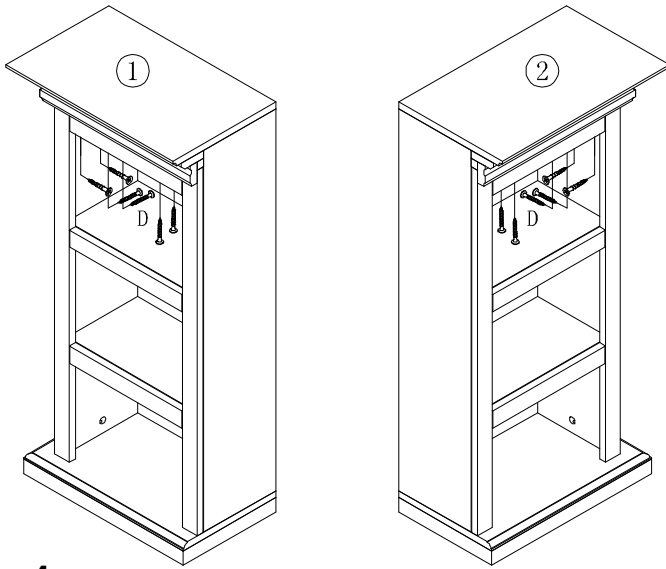

Figure 4
PLACE THE BOOKCASE TOPS (1,2) ONTO TOP EDGES OF LEFT AND RIGHT SIDES OF BOOKCASES (3,4,5,6). INSERT 12PCS FLAT HEAD LONG SCREWS (D) THROUGH PREDRILLED HOLES ON PARTS (3, 4, 5, 6 ) AND TIGHTEN INTO CORRESPONDING HOLES ON UNDERSIDE OF BOOKCASE TOPS (1.2). AS FIGURE 4 SHOWN.